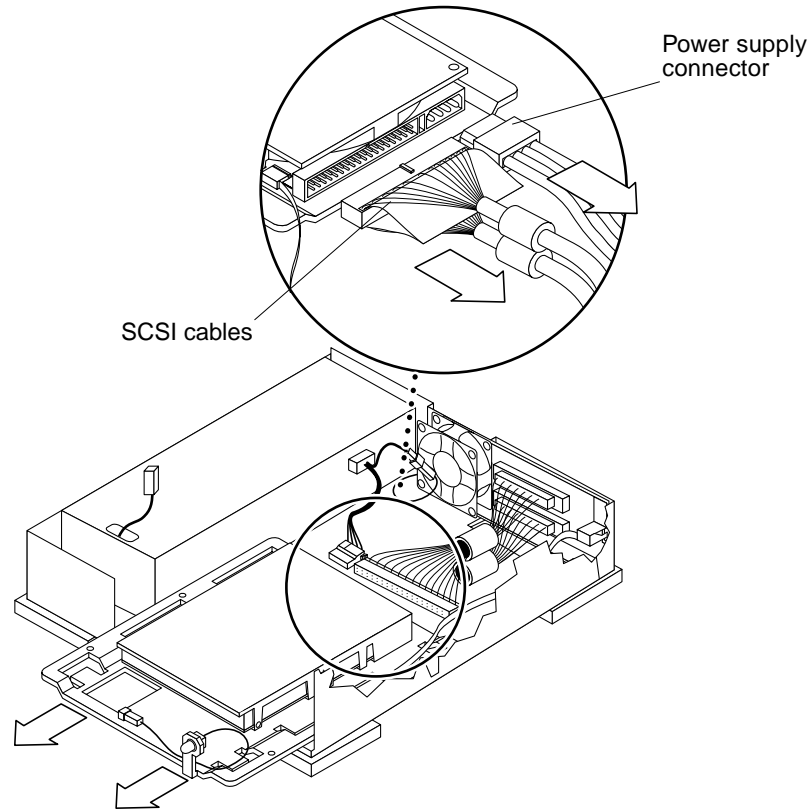

Figure 2-7 Sliding the Disk Drive Assembly Out of the Chassis and Disconnecting the Cabling
- 4. Slide the disk drive assembly, consisting of the disk drive and the mounting plate, partially out of the chassis (only about 1 to 2 inches). Do not completely remove the drive assembly. You just want to create a little room to disconnect the cables before removing the assembly completely. See Figure 2-7 on the next page.**
See Figure 2-7.